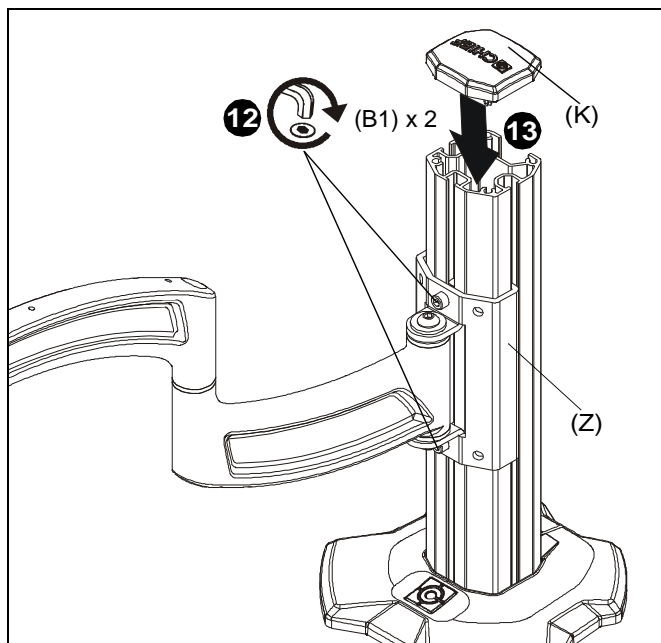

Figure 6
12. Tighten two 1/4-20 x 1/2" socket head carriage screws (B1) to secure column arm (Z) at desired height. (See Figure 6)
13. Install column cap (K) to column (CC). (See Figure 6)